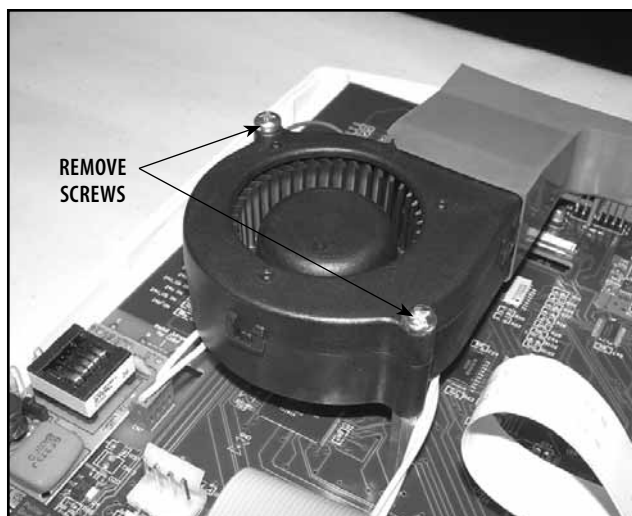

FIGURE 6.25
2. Using a #1 Phillips Screwdriver, remove the Two Fan Retaining Screws securing the Fan to the System Top. See Figure 6.25.